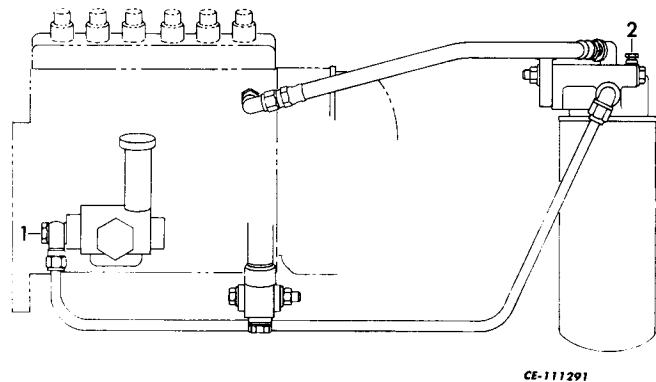

Fig. 36. Priming and Venting Points
2. Unlock the plunger of hand priming pump (1, Fig. 36) by rotating counterclockwise.
3. Open vent (2, Fig. 36) on the final filter.